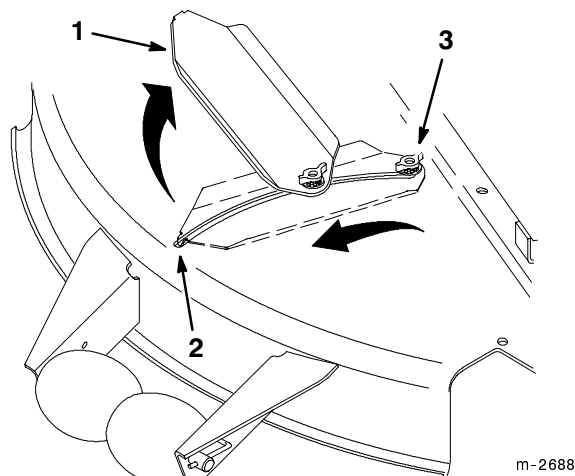

Figure 32
5. Loosen the wing nut on the front cover shaft (Fig. 32).
6. Lift the tab on the end of the slot cover up and out of the slot in the deck, then rotate the slot cover 180 degrees (Fig. 32).